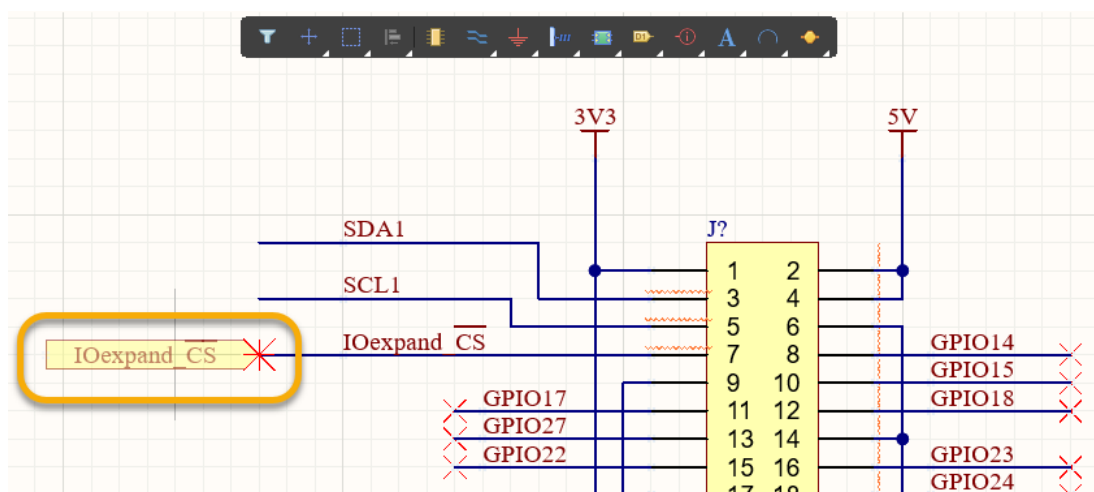

Figure 25. Signal Port `IOexpand_CS`
36. Place the `IOexpand_CS` port near the wire for net label **GPIO4** on **Pin 7** of the header as shown in Figure 25.